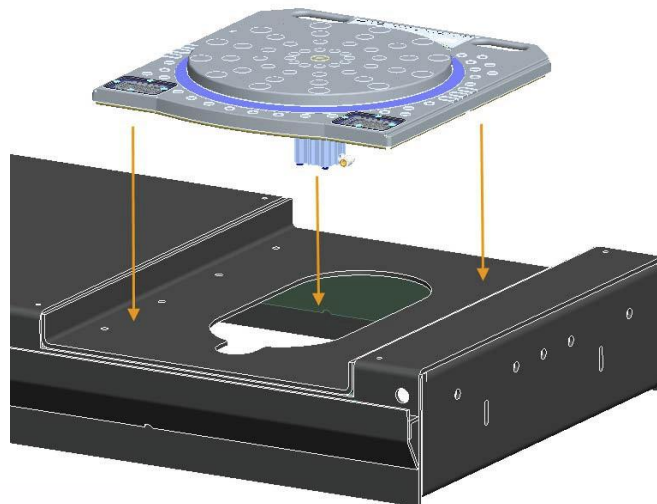

Figure 32 - Position Turn plates
2. Place each front turn plate assembly, one by one, on the front alignment pan on runway. Moving handles of the turn plates should be oriented to the outside of lift, shown below. See Figure 32.